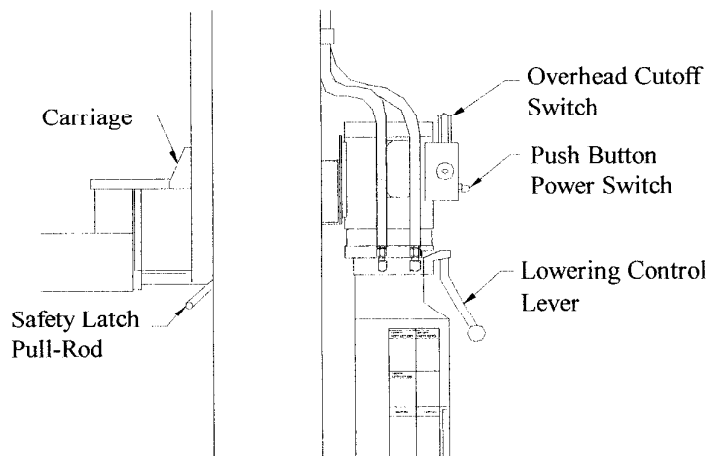

FIGURE 14
31. Lower the lift to the ground. To do this, first manually raise the carriages just enough to release the latches using the push button switch on the power unit. Pull out the latch pull rods under each carriage, then lower the lift by pushing the lowering control level on the power unit. **KEEP FEET OUT FROM UNDER THE CARRIAGES. THEY CAN DROP VERY SUDDENLY.** Figure 14.